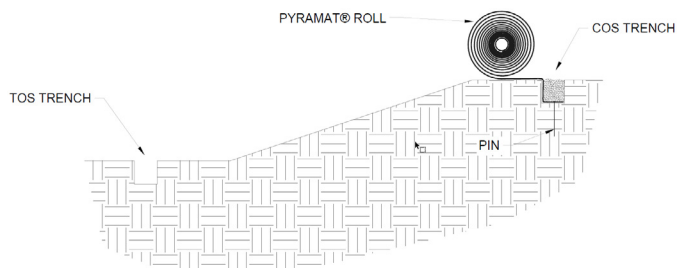

Figure 5: Crest of Slope (COS) trench replacement
4. Backfill and compact the COS trench in the location of the first panel only (Figure 5).